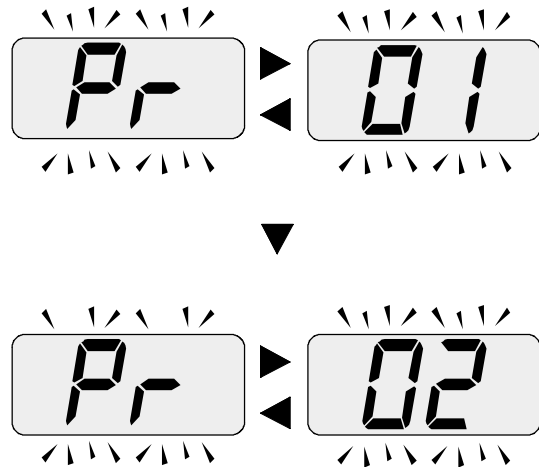

Fig. 9.8
- 3 The display shows Fig. 9.8